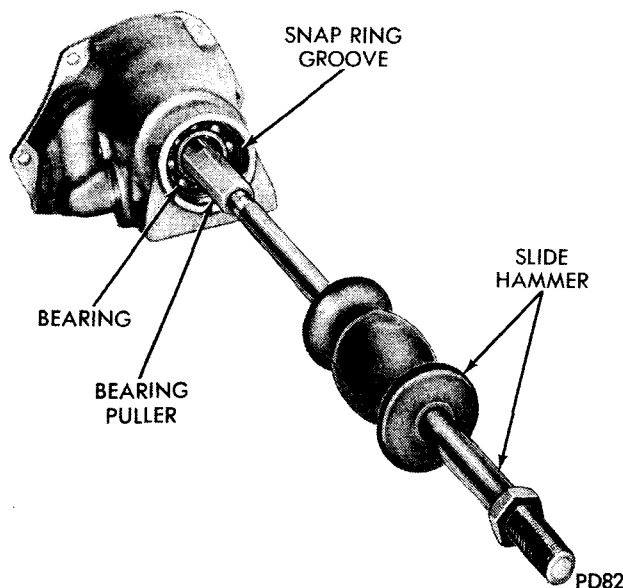

Fig. 30—Removing Bearing (Short Extension)
(2) Remove bearing snap ring from the extension housing. Drive the bearing rearward out of housing with Tool C-4105 and C-637 (Fig. 30).